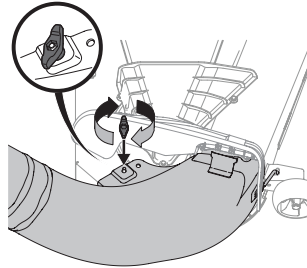

Figure 20
5. Secure the discharge chute elbow to the cutting deck using a wing knob (720-04122) included with the bagger kit. Refer to Figure 20.